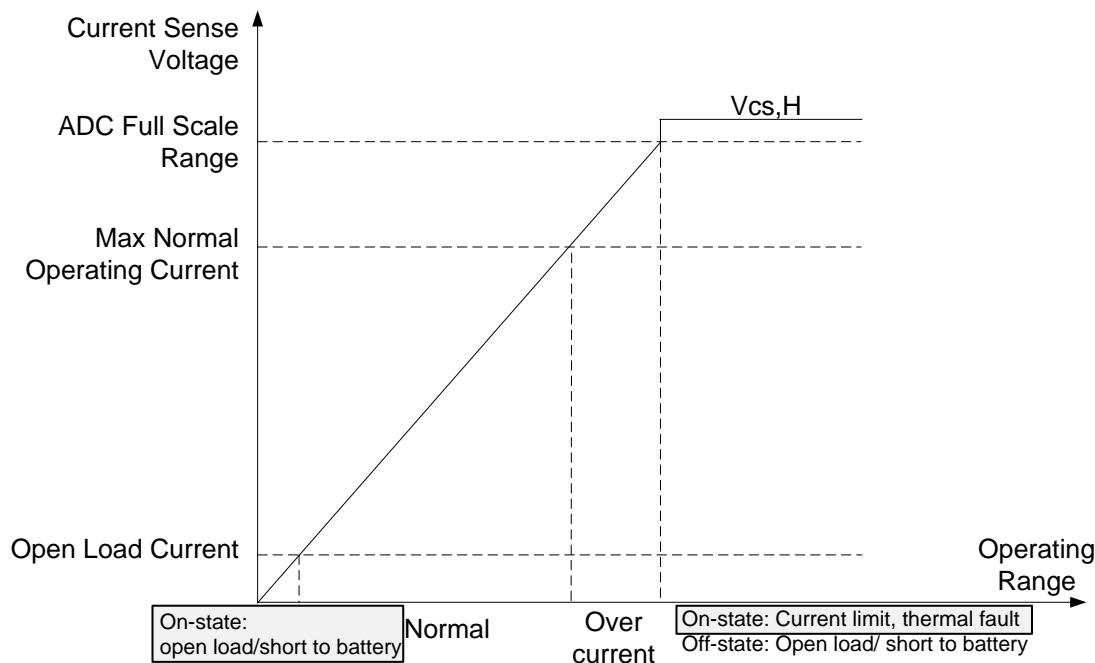

Figure 46. Step 1: Distinguish Short to GND in On-State
1. In the on state, for current sense version device (version B), on-state open load/ short to battery are recognized as an extremely-low voltage level in current sense pin, while short to GND is reported as a pulled-up voltage  $V_{CS,h}$ . Therefore, the user can find a short to GND (see Figure 46).